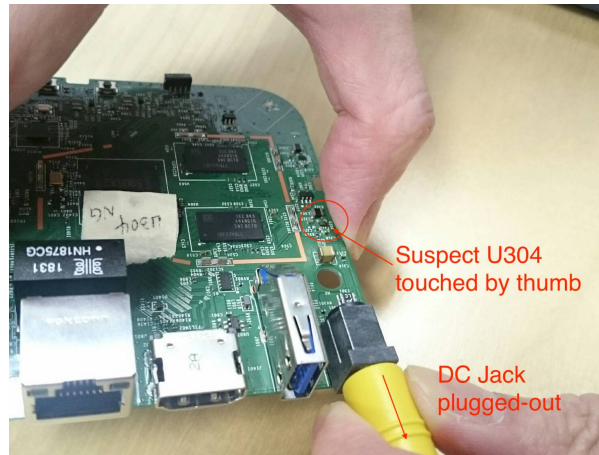

Figure 1. Simulate thumb to touch component
7. Please see figure 1 simulated as thumb to touch the U304 while plugged-out DC Jack cable.
Suspect the fingers and thumb to touch component, that ESD or short components while PCBA is power on and has very high risk without housing to cover PCBA. Even U305 has risk to be touched. Please see figure 1.